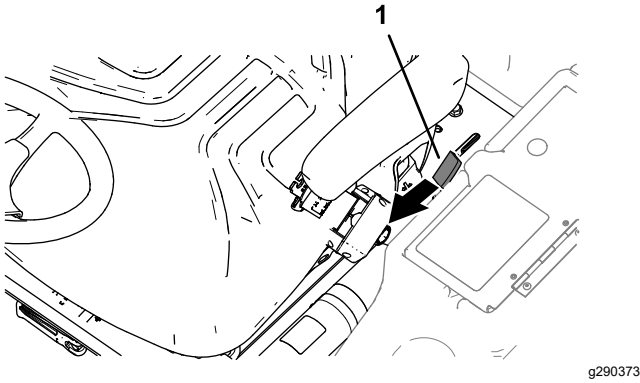

Figure 42
1. Move the platform-latch handle (Figure 42) toward the front of the machine until the latch hooks clear the locking bar.